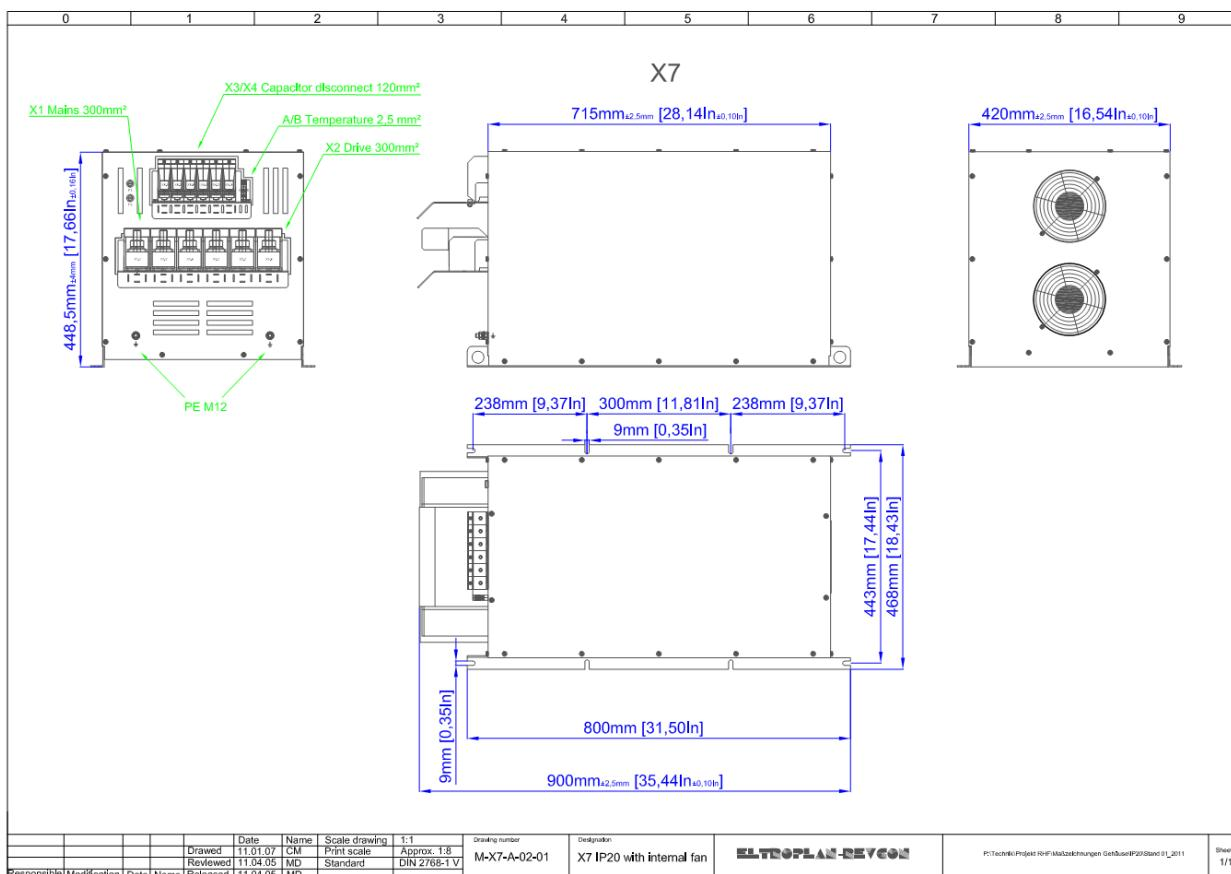

Figure 22: Dimension diagram configuration X7 internal fan
- Observe 150mm free space above- and below (see figure 22).